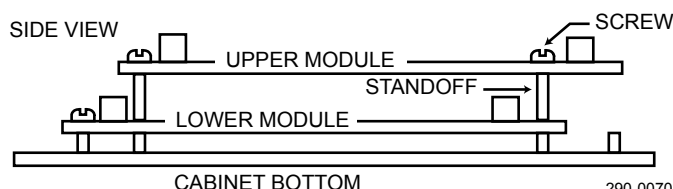

Figure 2: Mounting in stacked configuration
2. To mount above a T8000-LCU, add four standoffs at the offset mounting positions through the bottom module and secure the upper module to these standoffs with screws. See Figure 2.